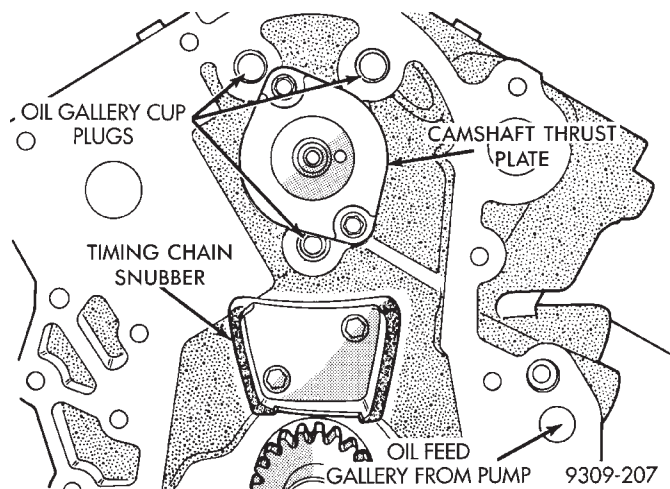

Fig. 10 Camshaft Thrust Plate
- (1) Remove rocker arm and shaft assemblies.
- (2) Remove push rods and tappets; identify so each part will be replaced in its original location.
- (3) Remove camshaft thrust plate (Fig. 10).
- (4) Install a long bolt into front of camshaft to facilitate removal of the camshaft; remove camshaft, being careful not to damage cam bearing with the cam lobes.
- (2) Install camshaft thrust plate with two screws as shown in (Fig. 10). Tighten to 12 N•m (105 in. lbs.) torque.
- (3) Rotate crankshaft so the timing arrow is to the 12 O'clock position.
- (4) Place timing chain around camshaft sprocket and place the timing mark to the 6 O'clock position.
- (5) Align the dark colored links with the dot on the camshaft sprocket, place timing chain around crankshaft sprocket with the dark colored link lined up with the dot on the sprocket and install camshaft sprocket into position.